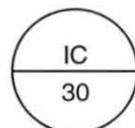

Figure 44. Instrument Tag
1. Determine the measured variable indicated in the instrument tag in figure 44.